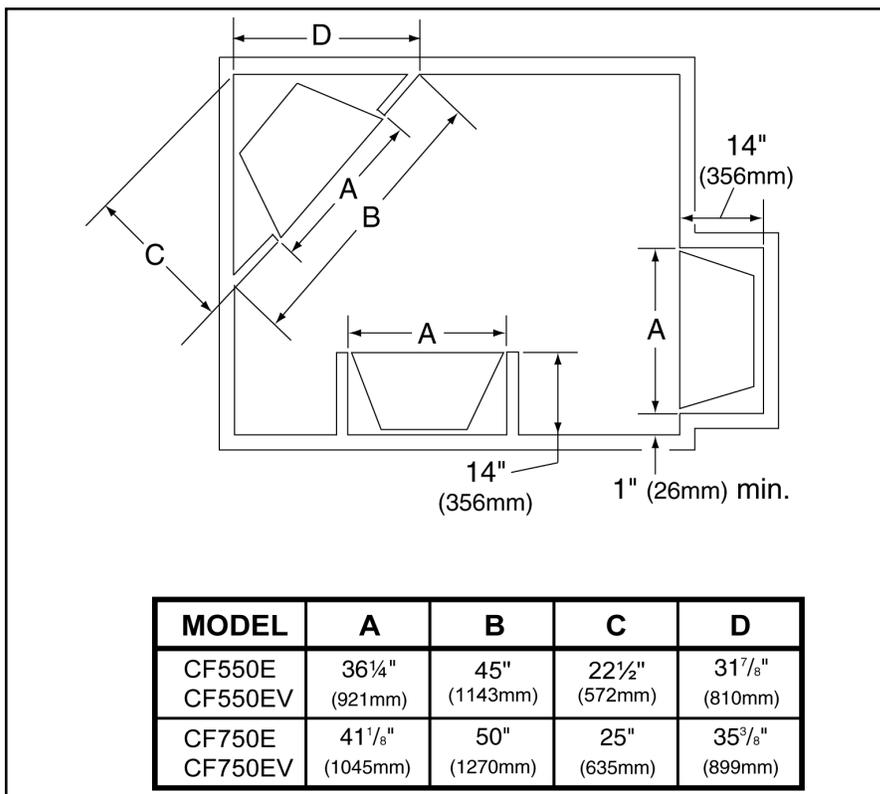

Figure 1 - Appliance Locations
Figure 1 illustrates a variety of ways the appliance may be located in a room. The Crestfire Series appliances may be installed directly on the floor or raised on a hearth.
Figure 1 shows all clearances that must be maintained around the appliance.
- b. If using a listed wall cabinet or corner cabinet, refer to the installation instructions supplied with the kit. For custom cabinets, frame and construct with the opening and depth dimensions listed in Figures 1 and 2.
- a. Follow recommended framing dimensions in Figures 1 and 2.